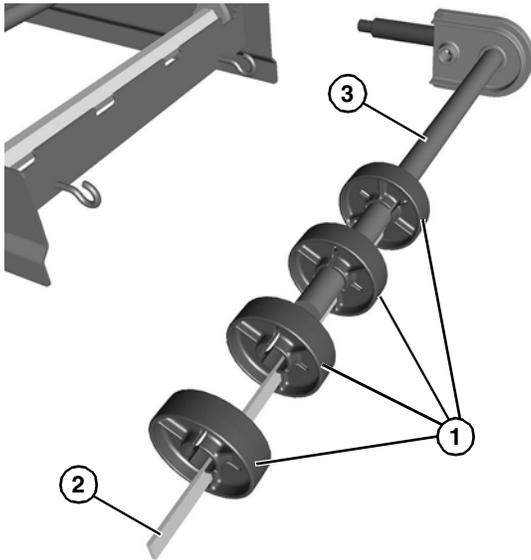

Figure 65
- Slide the pucks (Figure 65, item 1) and alignment bar (Figure 65, item 2) off the idler shaft (Figure 65, item 3).